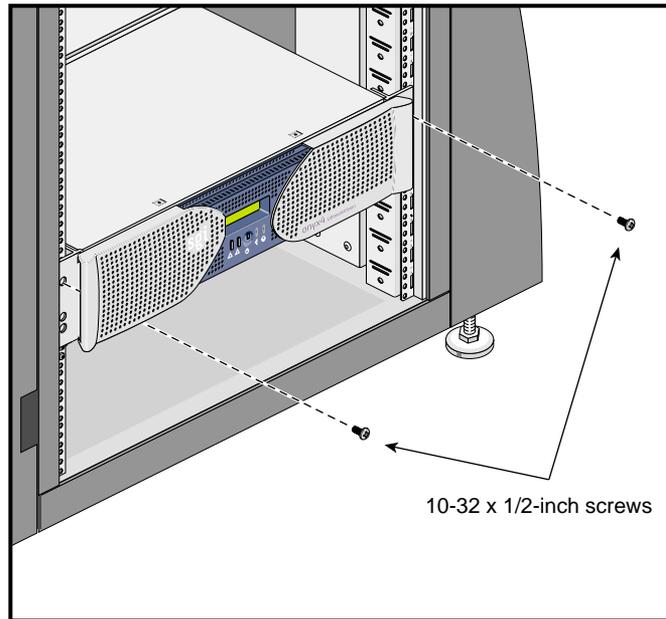

Figure C-9 Securing the Brick to the Rack
6. Secure the brick to the rack by inserting a 10-32 x 1/2-inch Phillips screw in the top hole of each chassis ear (see Figure C-9).
Caution: Do not lift the brick by its bezel; it is not designed to handle the weight of the brick. Instead, use the chassis ears to move the brick (see Figure C-9).